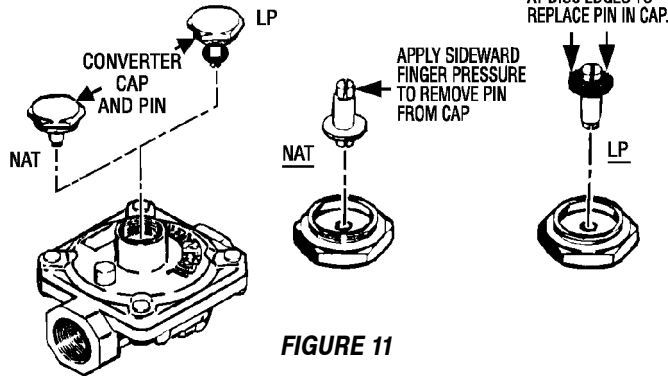

FIGURE 11
**B. INVERT CAP IN APPLIANCE PRESSURE REGULATOR (See figure 11)**
#### **B. INVERT CAP IN APPLIANCE PRESSURE REGULATOR.** (See figure 11).